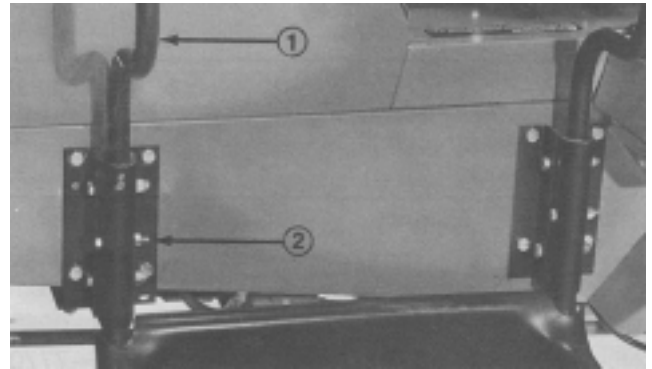

Figure 3
2. Insert legs of upper support tube assembly into lower support tubes and secure with (2) 5/16–18 x 2–1/4" lg. capscrows and locknuts (Fig. 3).